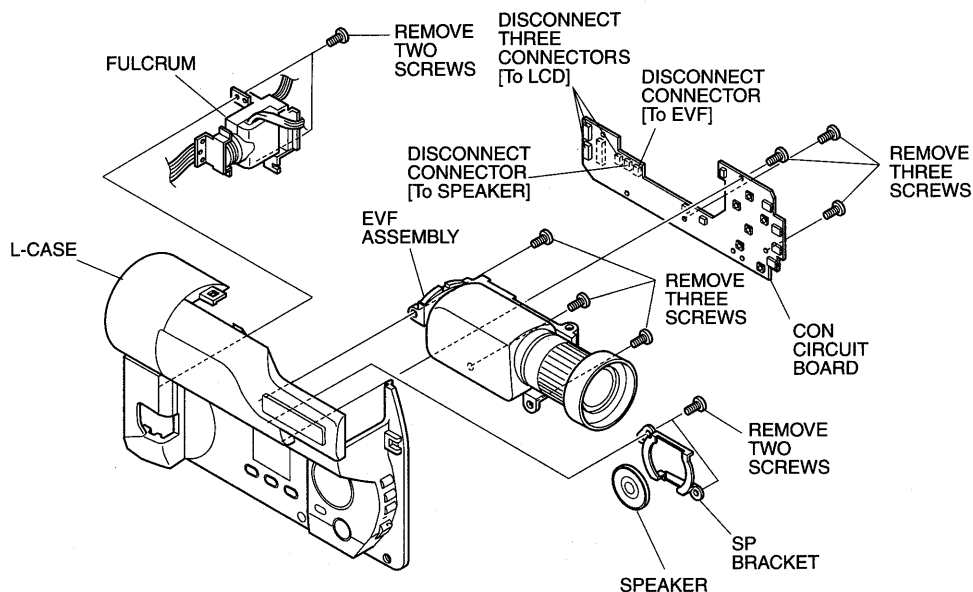

Fig. 2-5-1 [Except for TYPE 660, 368, 360]
2.5 Electronic Viewfinder (EVF) Assembly, Speaker [Except for TYPE 660, 368, 360], CON Circuit Board, Fulcrum [Except for TYPE 660, 368, 360], L-Case (Figs. 2-5-1, 2-5-2, 2-5-3)